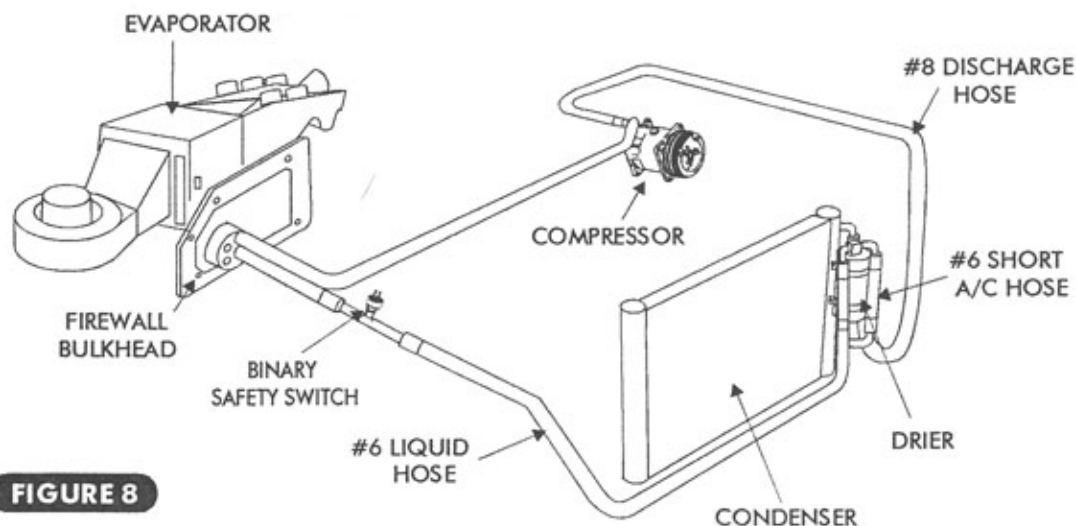

FIGURE 8
- 1. LUBRICATE AND ATTACH THE # 10 SUCTION HOSE TO THE COMPRESSOR (1/2" I.D. HOSE 60" LONG, 90° FEMALE O-RING FITTING ON THE EVAPORATOR END AND A 135° FEMALE FLARE FITTING ON THE COMPRESSOR END.) **SEE FIGURE 8 BELOW**
- 2. LUBRICATE AND ATTACH THE # 8 DISCHARGE HOSE TO THE COMPRESSOR (13/32" I.D. HOSE 48" LONG, 90° MALE O-RING FITTING ON THE CONDENSER END AND A 135° FEMALE FLARE FITTING ON THE COMPRESSOR END.) **SEE FIGURE 8 BELOW**
- 3. LUBRICATE AND ATTACH THE # 6 LIQUID HOSE FROM THE EVAPORATOR TO THE DRIER (5/16" I.D. HOSE 85" LONG, 90° FEMALE O-RING FITTING ON BOTH ENDS.) **SEE FIGURE 8 BELOW**
- 4. ATTACH BINARY SAFETY SWITCH (w/ HOSE KIT) TO SERVICE PORT ON # 6 LIQUID HOSE. **SEE FIGURE 8 BELOW**